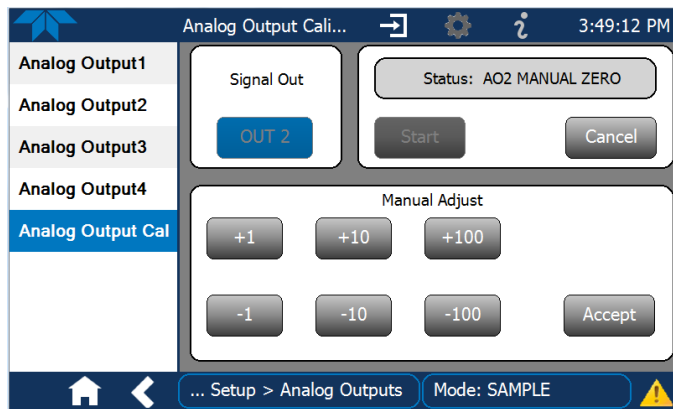
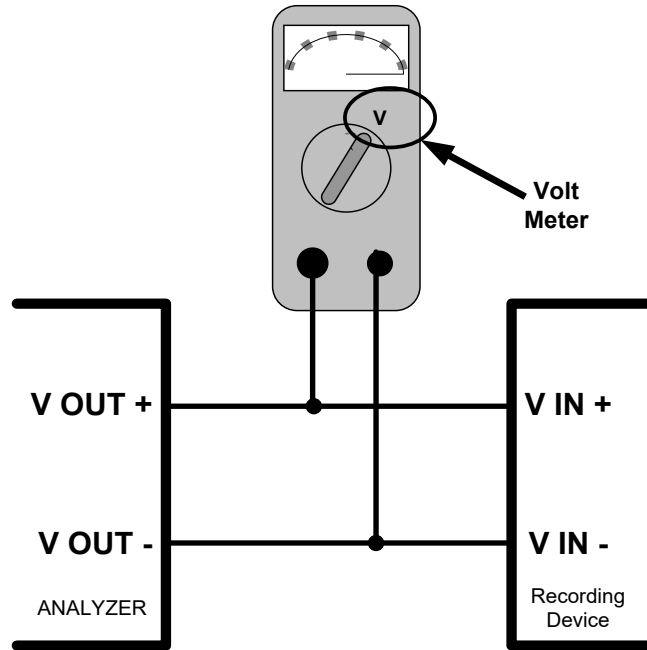

Figure 2-54. Analog Outputs Manual Calibration Screen (AOUT2 Example)
Figure 2-55. Setup for Checking / Calibrating DCV Analog Output Signal Levels
- MANUAL for individual calibration (Figure 2-54) of analog outputs where manual adjustments can be made (the only calibration type allowed when Current is selected for the Range). See Sections 2.5.8.1 and 2.5.8.2 .
It is possible to manually calibrate the voltages by using a voltmeter connected across the output terminals (Figure 2-55) and changing the output signal level in the Manual Adjust field of the Analog Outputs Calibration screen (Figure 2-54). Refer to Table 2-14 for voltage tolerances.